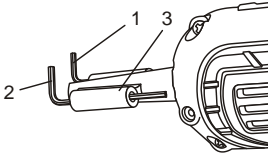

Fig. 1
The 2.5mm hex key (1) for tightening the blade clamp and the 3mm hex key (2) for adjusting the bevel angle are stored in the cord guard at the rear of the tool (3) (Fig. 1).